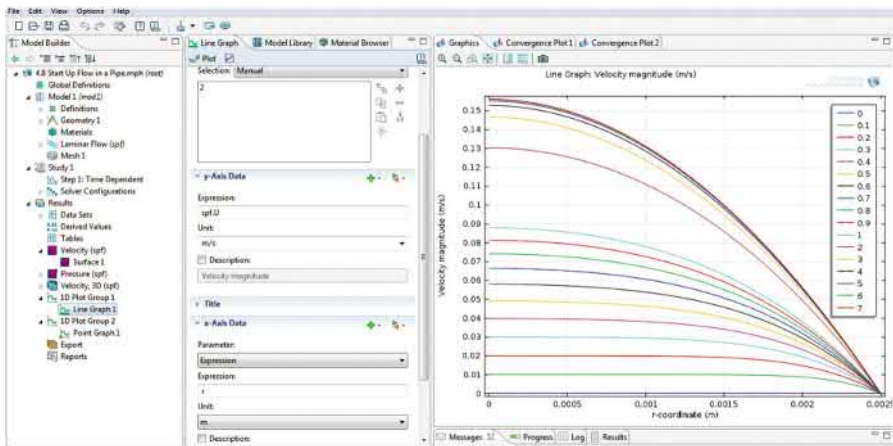

FIGURE 4.13 Transient velocity profiles.
- Select the bottom boundary on the rectangle graph. Click on the “+” sign at the top right corner, this will add *boundary 2* in the *Boundary Selection* tab. Click on the “+” sign in the *x-axis* data and select *r-coordinate (r)*. Plot the *Line Graph*. A graph will appear giving the profile of *Velocity magnitude versus r* for boundary 2 as shown in Figure 4.13.
- Now, select the top boundary on the rectangle graph. Click on the “+” sign at the top right corner, this will add *boundary 3* in the *Boundary Selection* tab. Click on the “+” sign in the *x-axis* data and select *r-coordinate (r)*. Plot the *Line Graph*. The same graph as shown in Figure 4.13 will appear giving the profile of *Velocity magnitude versus r* for boundary 3.